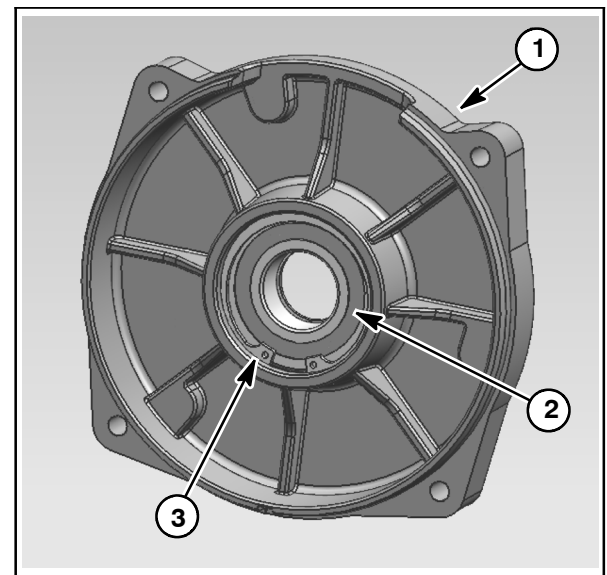

Figure 50
7. Remove the retaining ring from the rear end bracket (Fig. 50). Press bearing from the rear end bracket and discard the removed bearing.
2. Press a new bearing into the rear end bracket, pressing on the bearing outer race only. Secure bearing in bracket with retaining ring (Fig. 50). Make sure that retaining ring is fully seated in groove in bracket after assembly.